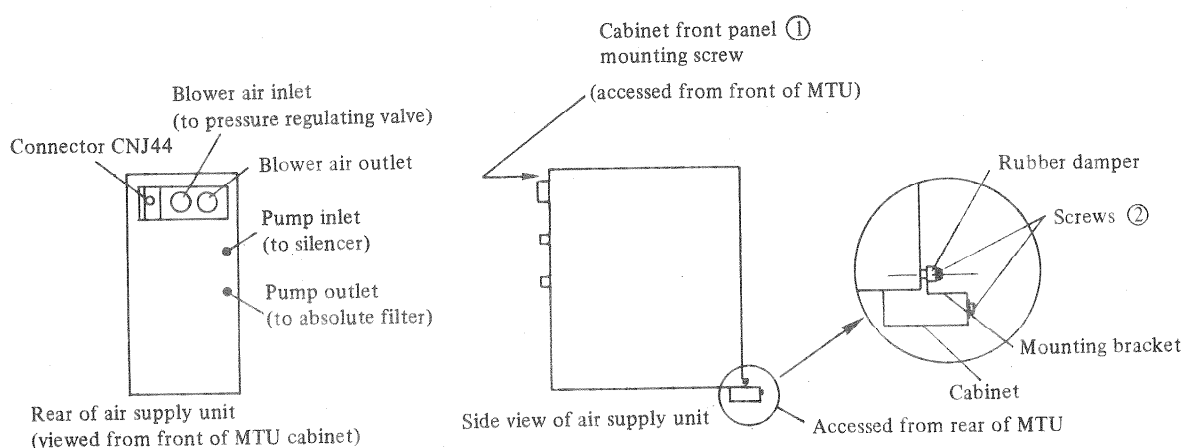

Figure 2.6 Air supply unit removal
- (b) Disconnect the hose from the blower air inlet and blower air outlet, shown in Figure 2.6.